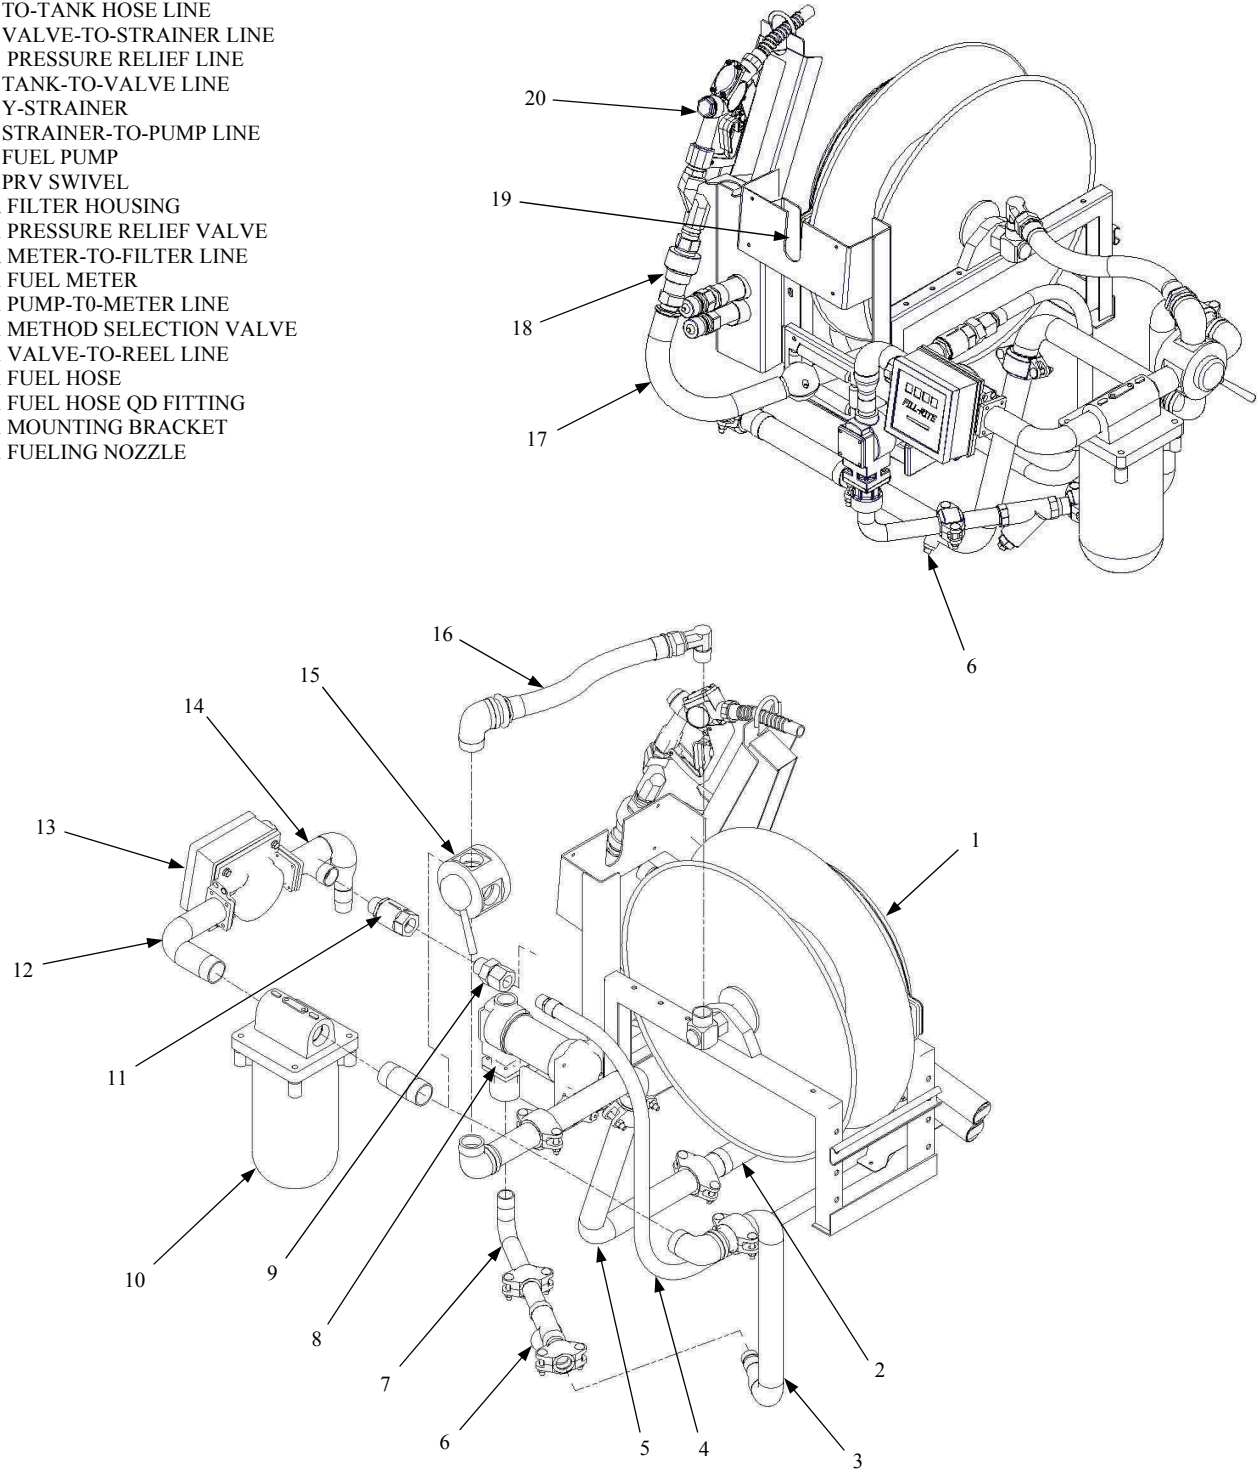

Figure 5-12. Plumbing Assembly
- c. Remove nuts (7), lock washers (6), and bolts (1).
- d. Separate split-rims (2) and (5) from tire (3).
- e. Remove inner tube (4) from tire (3). Reassembly in reverse order. Ensure that inner tube stem is positioned through access hole in split-rim.
- f. Torque nuts (7) to 150-foot-pounds before applying air pressure to wheel.
5.3.6 Plumbing Assembly. The Plumbing Assembly is located at the rear of the unit. The assembly consists of a fuel pump (See Paragraph 5.3.6.1), a fuel meter (See Paragraph 5.3.6.2), a filter housing (See Paragraph 5.3.6.3), a selection valve (See Paragraph 5.3.6.4), a hose reel (See Paragraph 5.3.6.5), and several plumbing lines, hoses, and other plumbing items (See Paragraph 5.3.6.6). Paragraph 5.3.6.7 describes how to change the fuel filter element. Use Figure 5-12 for the maintenance steps described in 5.3.6.1 through 5.3.6.5.